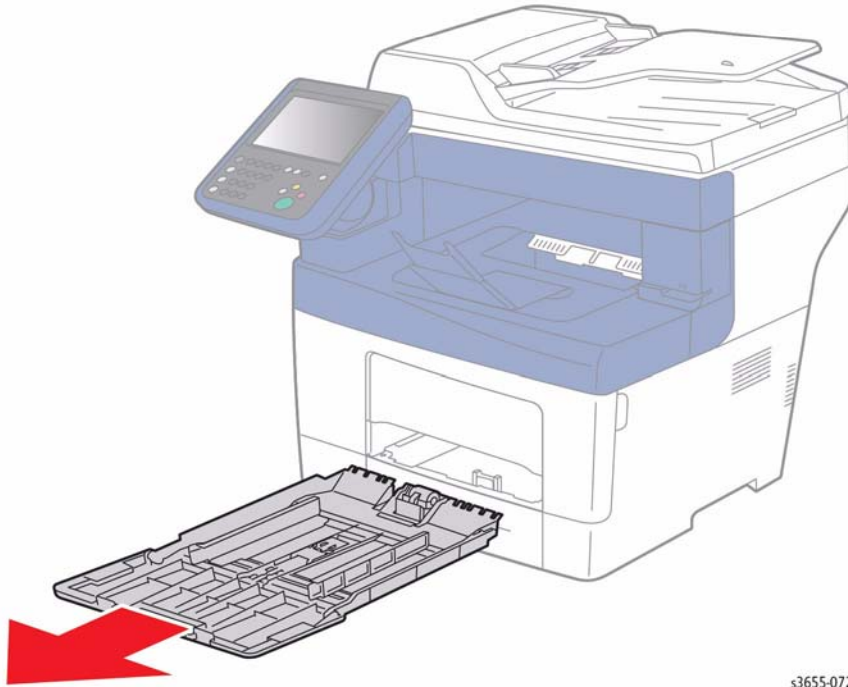

Figure 1 Remove the Bypass Tray
2. Refer to Figure 1 and pull the Bypass Tray from the chassis.